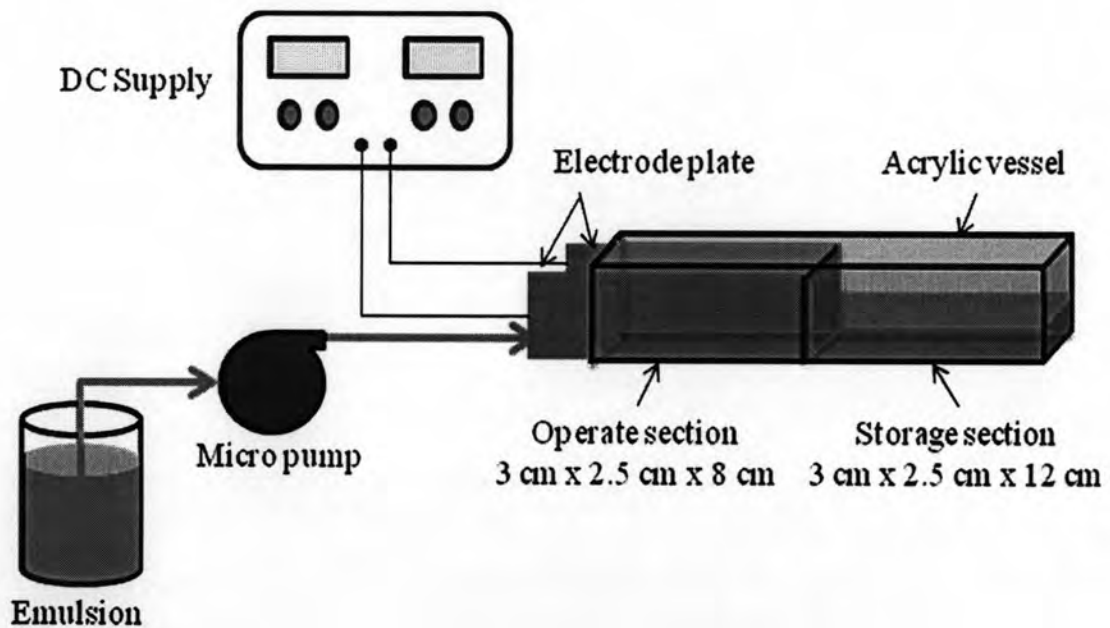

Figure 3.1 Schematic diagrams of the experimental apparatus
The experiments are operated in an acrylic rectangular horizontal vessel in size wide 3.0 cm height 2.5 cm length 8.0 cm. The electrodes are made by stainless steel plate size wide 2.5 cm length 12 cm. The electrodes are fixed in parallel with distance between electrodes 2.0 cm. The direct current (DC) (Model GW-6060D) is used as electric field in this experiment. The experimental set up for measurement of demulsification is shown in figure 3.1.